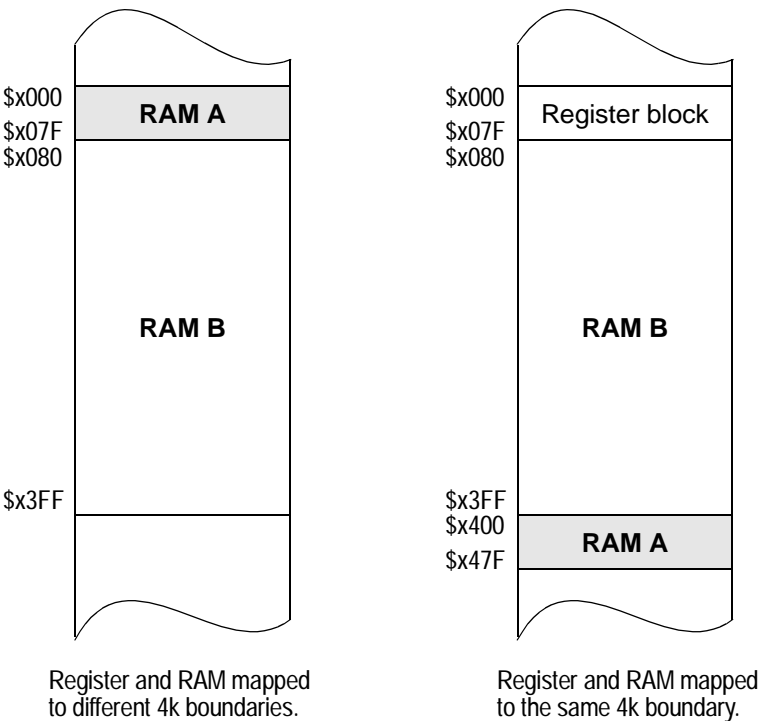

Figure 3-2. RAM and register overlap
**NOTE:** When the memory map has the 128-byte register block mapped at the same location as RAM, the registers have priority and the RAM is relocated to the memory space immediately following the register block. This mapping feature keeps all the RAM available for use. Refer to Figure 3-2, which illustrates the overlap.